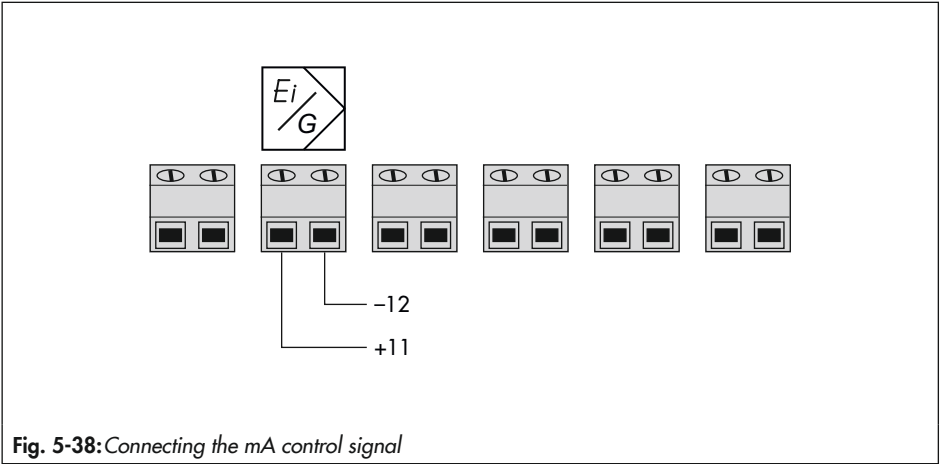

Fig. 5-38: Connecting the mA control signal
- Connect the electrical power (mA signal) as shown in Fig. 5-38.